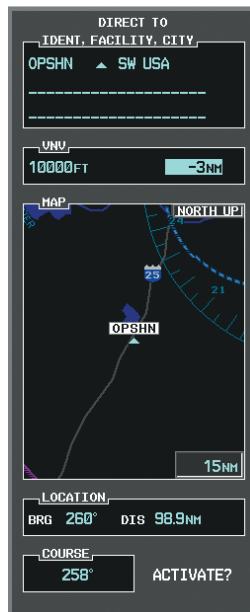

Figure 5-129 Enter VNV Offset Distance
- f) Press the **ENT** Key. The cursor is now displayed in the VNV offset field as shown in Figure 5-129.